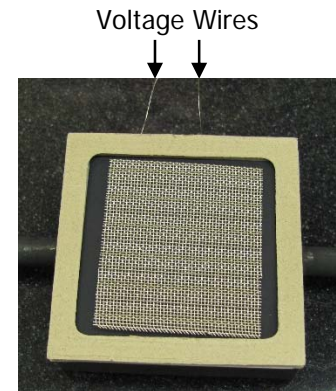

Figure 17
- Place the remaining seal on the cell so that it is in alignment with the edge of the cell and manifold (Figure 17). Make sure the seal does not overlap the silver mesh; trim the silver mesh to a slightly smaller size if necessary to prevent overlap.